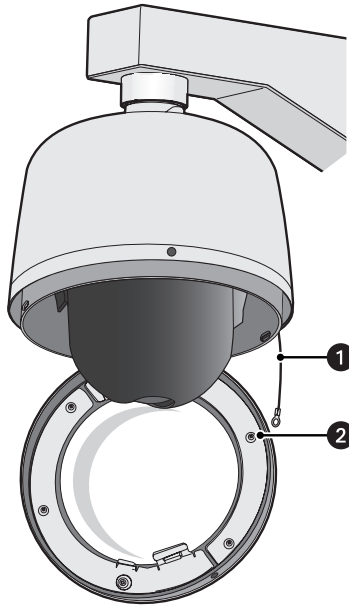

Figure 19. Attaching the Leash to the Stainless Steel Lower Dome
1. Attach the back box leash to the lower dome using the nearest retainer screw (refer to Figure 19).